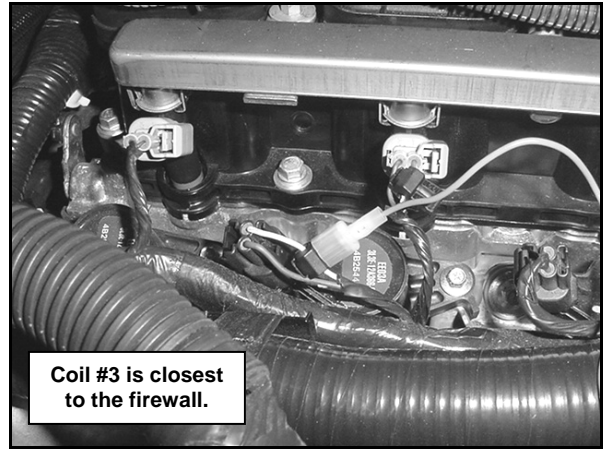

Figure 19
11. Connect the brown / yellow striped wire on the WOT/Window Switch to the green / white striped wire of coil #3 (cylinder 3) on the car. **See Figure 19.**